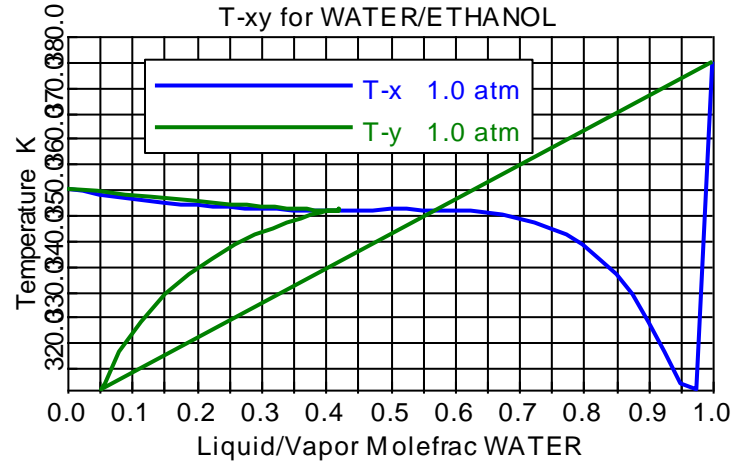

Figure 26.  $Txy$  diagram for ethanol-water system using the Peng-Robinson EOS.
For example, consider the ethanol-water system. This is a non-ideal system due to the interactions between the two molecules. The proper method to model this system will be an activity coefficient model such as the NRTL. However, for the sake of demonstration, let us assume we want to use an EOS like the Peng-Robinson (PR) equation to model this mixture. If you try to plot the  $T_{xy}$  diagram for this mixture using the PR equation in Aspen Plus (from the **Tools>Analysis>Property>Binary...** menu), you will notice that the results obtained is does not make sense, as shown in Figure 26. If you try to look at the PR interaction parameters for ethanol-water, you will see that there is none. However, if we have experimental data, we can generate the interaction parameters using data regression.